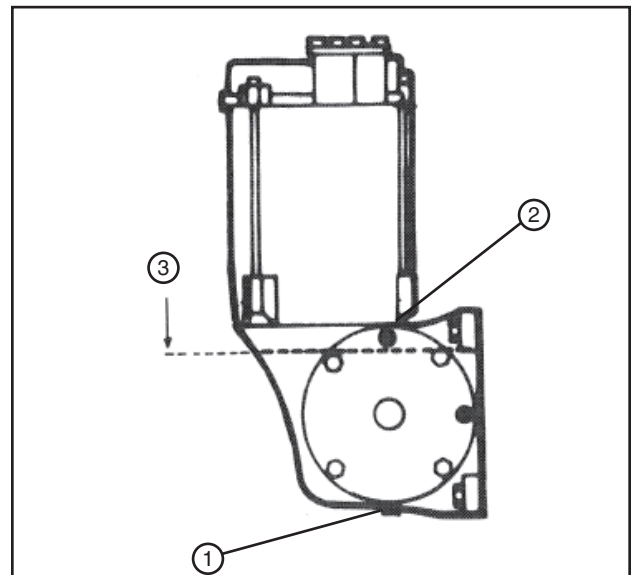

Figure 69-3 1. Drain Plug 2. Fill Plug 3. Oil Level
1. Remove the drain plug and the fill plug. Drain the oil and install the drain plug. See figure 69-3.
2. Fill the gearbox to within 1/2 in (12.7 mm) of the bottom of the fill plug hole with Valley Gear Lube. The capacity of the gearbox is approximately 1 quart (0.9 liter). See figure 69-3.